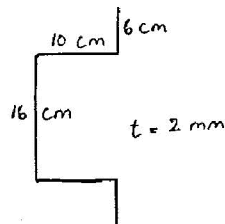

Fig. 3 Qn. 12 (b)
- (b) Locate the shear center for the section shown in Fig. 3. Plot the shear stress distribution when a vertical shear load of 1.2 kN acts through the shear center.